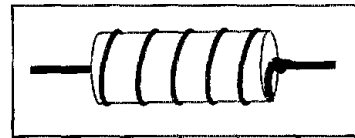

Figure 2—A single-layer RF choke is just a wire solenoid wound on a phenolic or ferrite core.
**RF chokes.** These vary considerably in design. Molded RF chokes, shielded axial lead inductors encapsulated in epoxy, are designed for minimum coupling in high density circuit configurations. For less densely populated circuit boards, inexpensive axial-lead RF chokes wound on phenolic or powdered-iron cores are available (Figure 2). When relatively high values of inductance are required, *multisection* windings are often used instead of a single, multilayer winding to reduce distributed capacitance. These are traditionally called *pi-wound* or *pie-wound* chokes because each section is sometimes called a *pi* or *pie*.